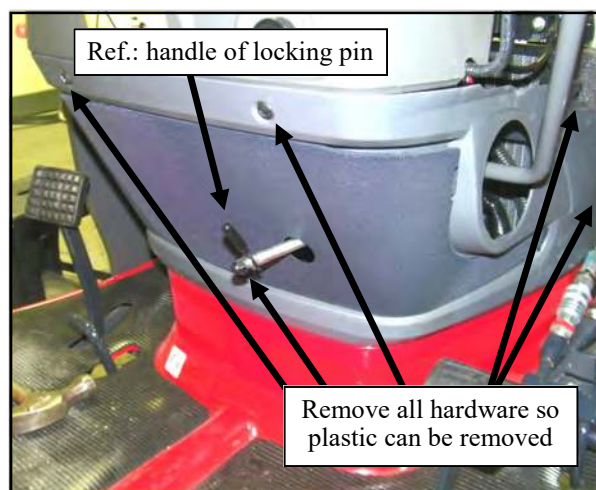

Fig. 1.5 (Plastic Air Intake Cover)
1.5 Per Fig. 1.5, remove any hardware necessary to be able to remove the plastic air intake cover. There are two bolts on each side (not fully shown). Retain all items for re-use. To get the plastic cover off the O.E.M. (Original Equipment Manufacturer) handle, you will now have to pass the large rubber boot thru the large opening that it was initially in.